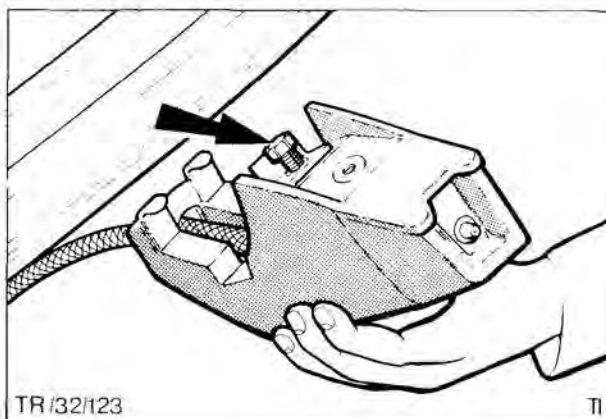

Fig. 23. Removing override. Clamp bolt arrowed
1. Loosen clamp bolt on override and remove override from bumper, Fig. 23.